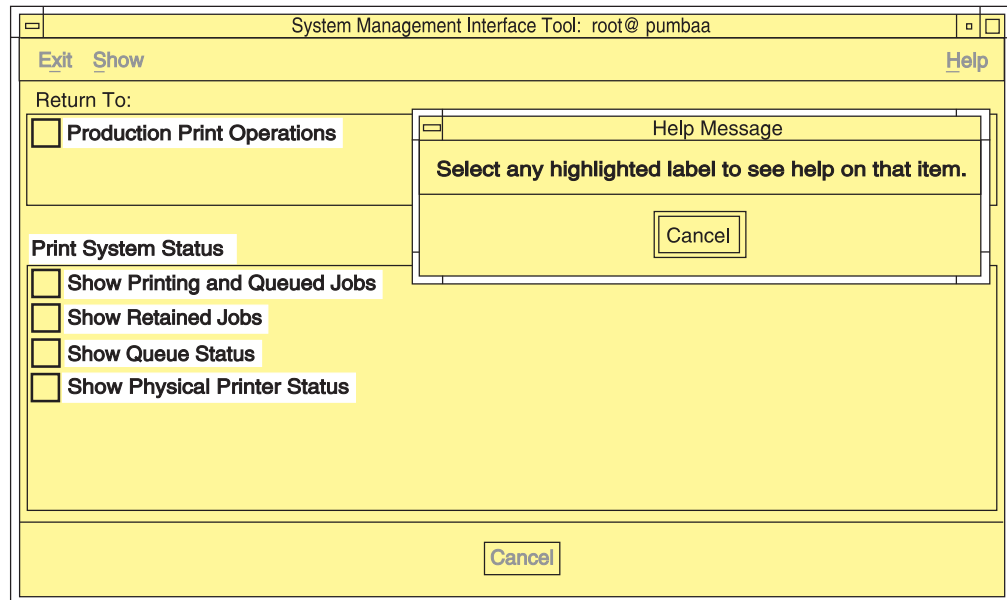

Figure 23. Help for SMIT Panel Menu Selections
1. Press **Ctrl + F1**. All the menu selections on the panel are highlighted. The mouse pointer changes to a question mark. A **Help Message** window opens with instructions on how to access help. Figure 23 shows an example of the results of pressing **Ctrl + F1** for a SMIT panel.